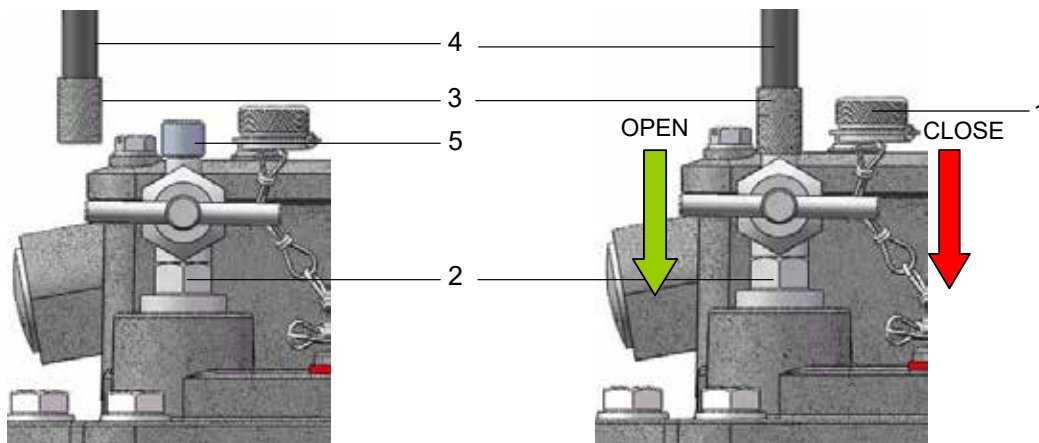

Figure 8 - Testing by means of test pump
- Remove the small cap nut (Fig. 8/ no. 1) from the bleeding valve (Fig. 8/ no. 2)
- Fit the adapter (Fig. 8/ no. 3) of the hose (Fig. 8/ no. 4) providing the connection to the test pump on the valve nozzle (Fig. 8/ no. 5)